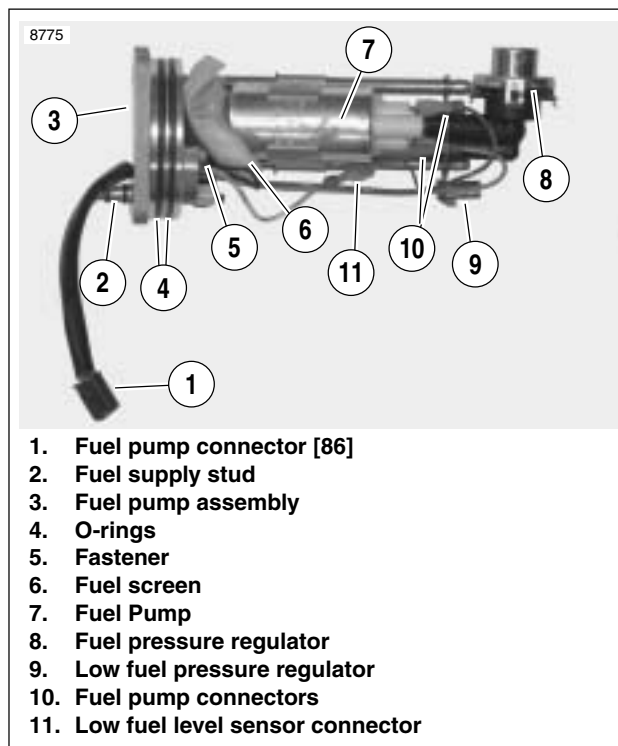
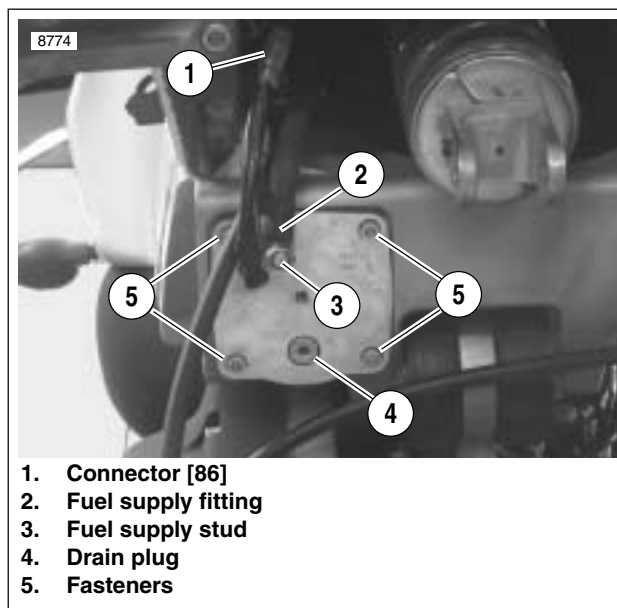

Figure 4-88. Fuel Pump Assembly (left side)
Figure 4-94. Fuel Pump Installation
2. See Figure 4-88. Pry four tabs of clip holding fuel pressure regulator (8) in place. Detach regulator from regulator housing.
4. See Figure 4-88. Disconnect fuel pump connectors (10) and low fuel level sensor connector (11).
6. Pry fuel screen (6) from fuel pump (7).
11. See Figure 4-88. Connect low fuel level sensor wiring (11).
12. Connect fuel pump connectors (10). Connectors are two different sizes.
4. See Figure 4-88. Disconnect fuel pump connector (10) and low fuel level sensor connector (11).
- b. Insert push pin/safety pin (1), into connector as shown.
8. See Figure 4-88. Remove screw (5).
11. See Figure 4-88. Insert **new** fastener (5), through ground wire terminal and secure to fuel pump assembly. Tighten to 18-22 **in-lbs** (2.0-2.5 Nm).
16. See Figure 4-88. Connect low fuel level sensor connector (11).
17. Connect fuel pump connectors (10). Connectors are two different sizes.
1. See Figure 4-88. Replace o-rings (4). Lubricate **new** o-rings with **clean** engine oil.
2. Install **new** o-rings on fuel supply stud (2). Larger o-ring is located in groove closer to fuel pump.
3. See Figure 4-94. Insert fuel pump into frame until resistance is felt.
4. Insert four screws (5) through fuel pump and into frame.